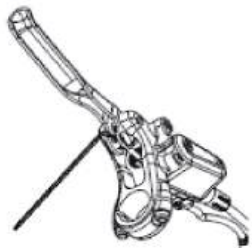

Figure 3-1 Grip Adjustment Screw Adjustment Methods
- ① When using a 2mm hexagonal spanner to make adjustments, turn clockwise to increase the grip distance (up to 100mm), and counterclockwise to decrease the grip distance (down to 80mm, as shown in Figure 3-1).
- ② If you turn the 2mm hexagonal spanner after adjusting the grip distance to the maximum (about 100mm) by turning clockwise, the aluminium piston of the brake lever will move forward and the handle will be easily pressed (the braking force will be increased at this time), but it may cause the function of the automatic oil replenishment to be ineffective.